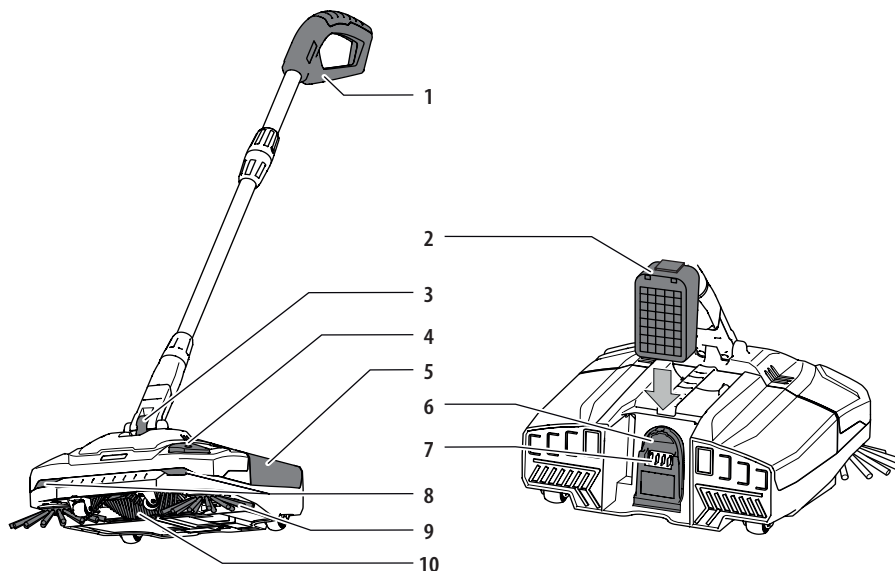

Fig. 1: Cordless sweeper in working position
- In the working position, the handle is freely movable (see Fig. 1).
- Slide the battery pack into the battery mount on the device until the battery pack engages with a click (see Fig. 1).